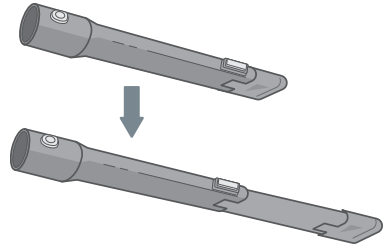

Figure 1.2
- Press button to extend the crevice nozzle [Figure 1.2].